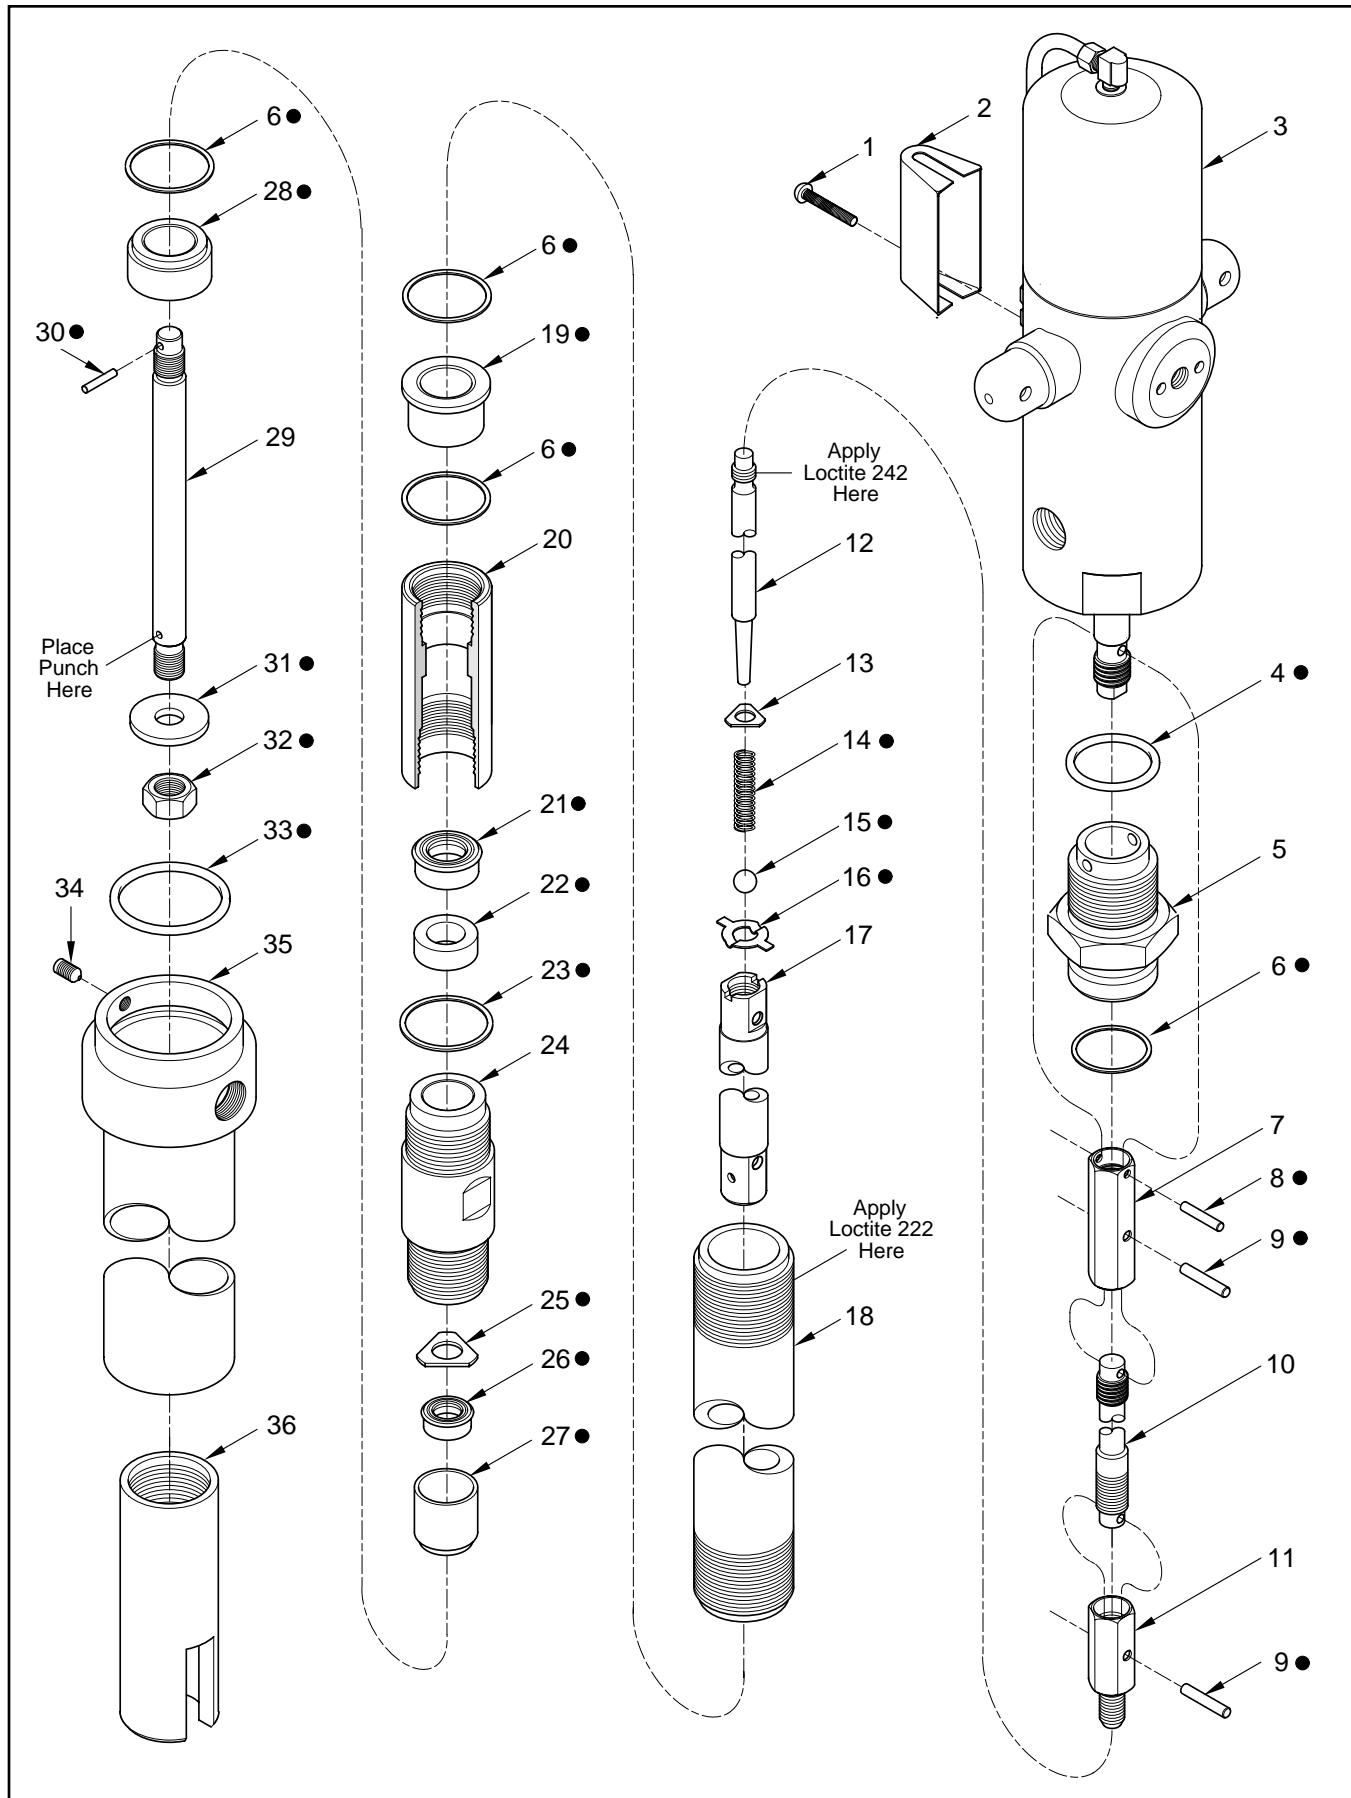

Figure 2 High-Pressure Pump Models 339359 Series - Exploded View
NOTE: Refer to **Figure 2** for component identification on all overhaul procedures.
1. Loosen Setscrew (34) that secures Follower Tube (35) to Adapter (5).
2. Remove O-Ring (33) from the Follower Tube.
3. Secure the pump assembly in a soft-jaw vise at Adapter (5).
4. Extend Rod (29) from Primer Body (36).
5. Gently remove Nut (32) from the Rod.
- Use an appropriate size punch in the hole of the Rod to prevent rotation. See **Figure 2**.
6. Remove Primer Disc (31) from the Rod.